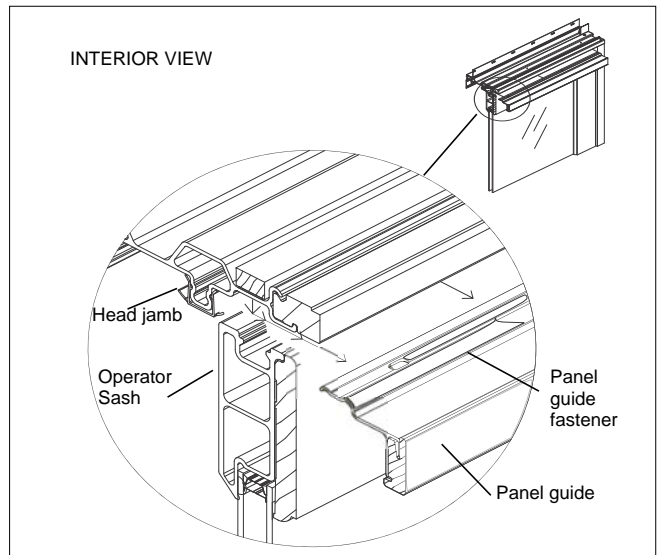

Figure 10
- Close and lock the operator panel. Remove the remaining screws fastening the operator panel guide to the head jamb. Remove the panel guide and fastener from the unit as shown in figure 10.